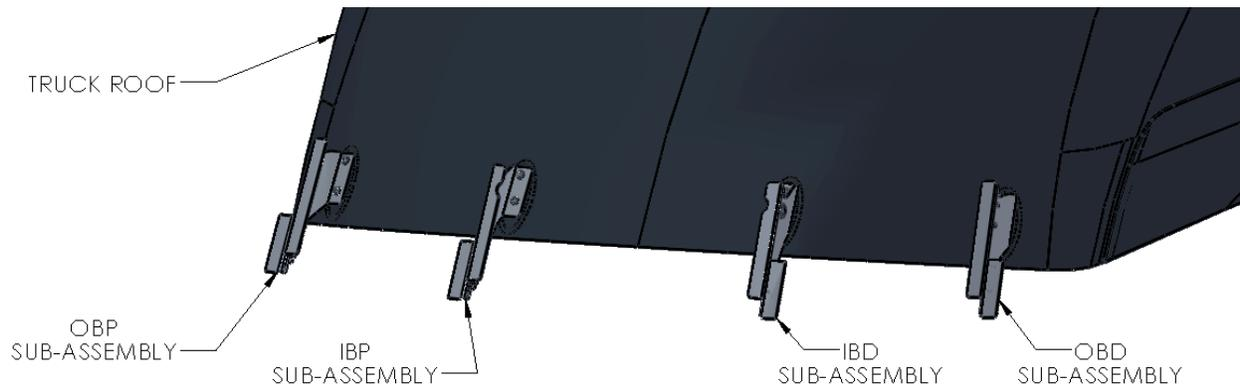

FIGURE 7 – Brackets mounted to truck, shown from front view
2. Mount the inner and outer bracket assemblies (IBD/IBP & OBD/OBP) in their corresponding locations using the OE M8 bolts (that were removed in step 1b). Don't fully tighten yet. (See FIGURE 7)